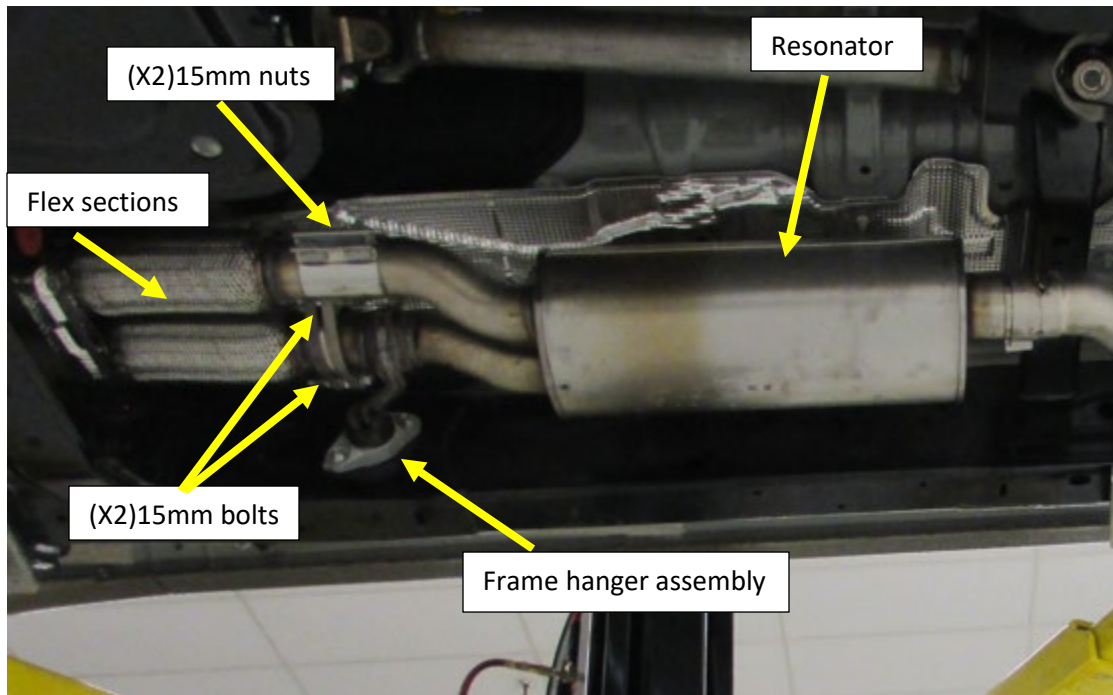

Figure.2
7. Loosen the (x2)15mm nuts on the coupler at the resonator inlet connection between the resonator and flex section. **Fig. 2 Do Not Remove the coupler from the Flex section.**
8. Remove the (x2) 15mm bolts at the flanged connection between the resonator and the flex section. **Fig. 2**
9. Remove the (x2) 10mm bolts at the frame hanger assembly on the right frame rail. **Fig.2**